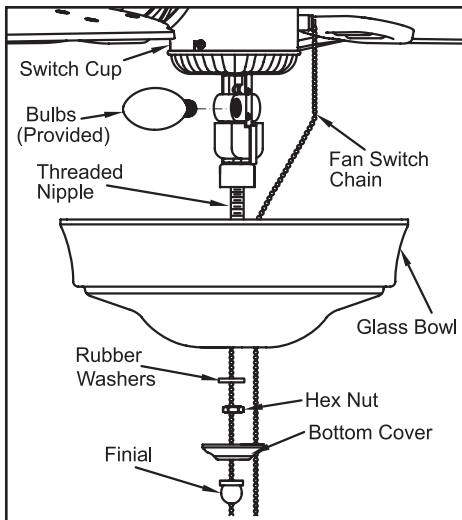

Figure 13
4. Remove the rubber washer, hex nut, bottom cover and the finial from the light kit fitter (Figure 13).